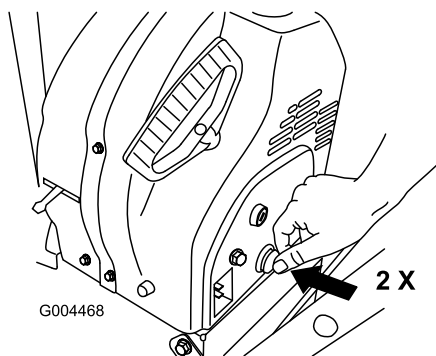

Figure 22
3. Firmly push in the primer 2 times with your thumb, holding the primer in for a second before releasing it each time (Figure 22).